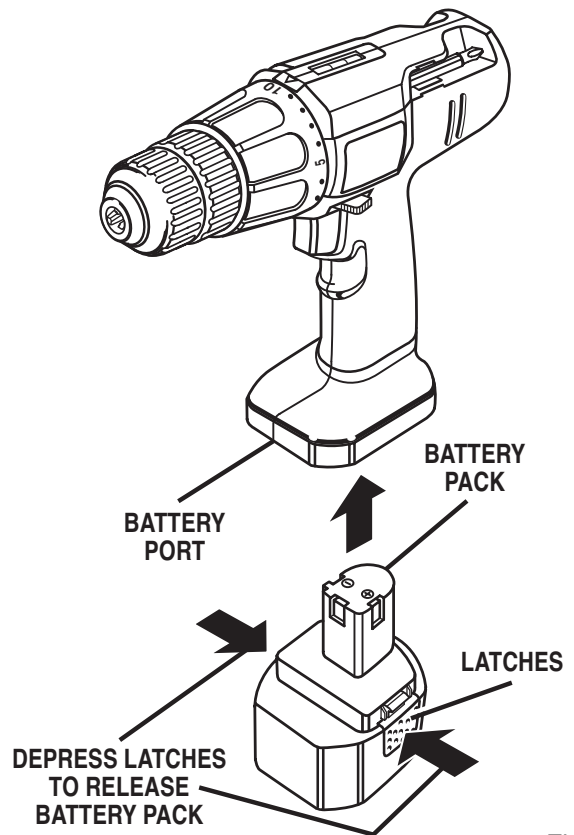

Fig. 5
- Place the battery pack in your drill. Align raised rib on battery pack with groove in drill's battery port. See Figure 5.
- Locate latches on side of battery pack and depress both sides to release battery pack from your drill. See Figure 5.